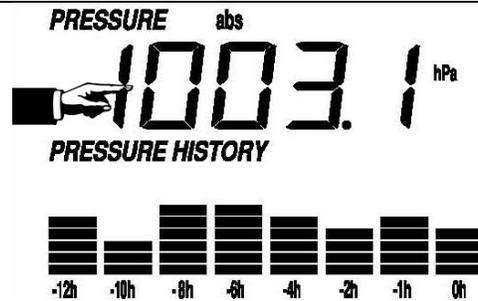

Figure 16
1. Touch the **PRESSURE** once, as shown in Figure 16. The barometric pressure will begin flashing and the  button and  button will be flashing (in the tendency section of the display).
Touch the PRESSURE GRAPH once, as shown in Figure 16. The barometric pressure will begin flashing and the  button and  button will be flashing (in the tendency section of the display).